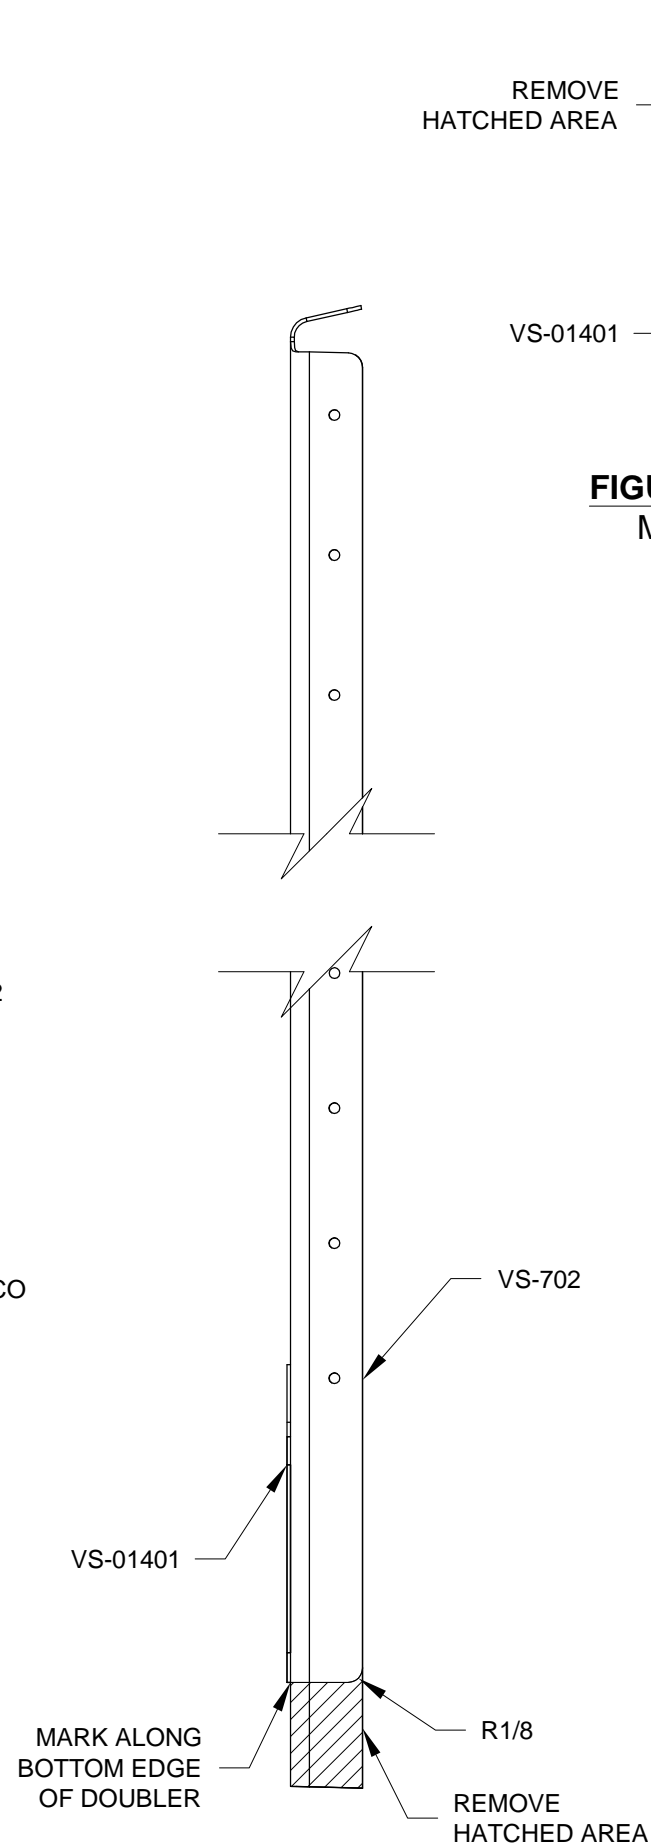

FIGURE 2: TRIMMING FRONT SPAR
Step 3: Use a marker to trace a line along the bottom edge of the VS-01401 Front Spar Doubler onto the VS-702 Front Spar. See Figure 2.
Radius the corners of the flanges as shown in Figure 2.